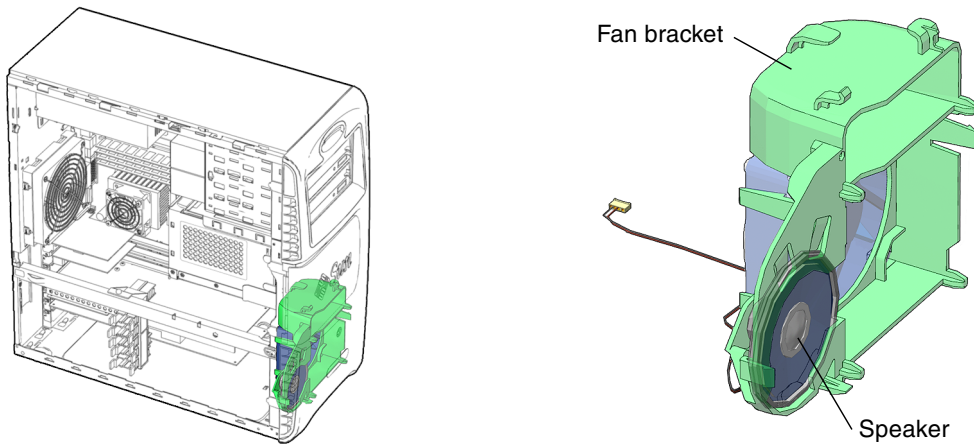

FIGURE 13-33 Speaker Location and Identification
2. Locate the speaker (FIGURE 13-33).
2. Locate where the speaker is to be installed (FIGURE 13-33).